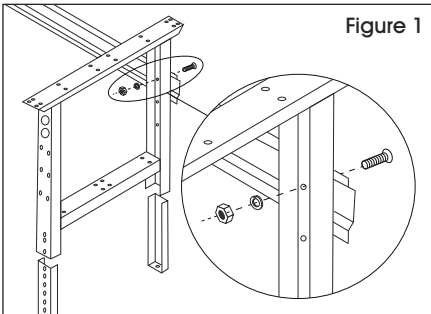

Figure 1
2. Place legs (2) in upright position. Legs should be placed approximately 45" apart.
3. Attach stringers (3) to table legs using center six holes in back legs. Fasten with 12 bolts, lock washers and nuts, but do not fully tighten. (See Figure 1)